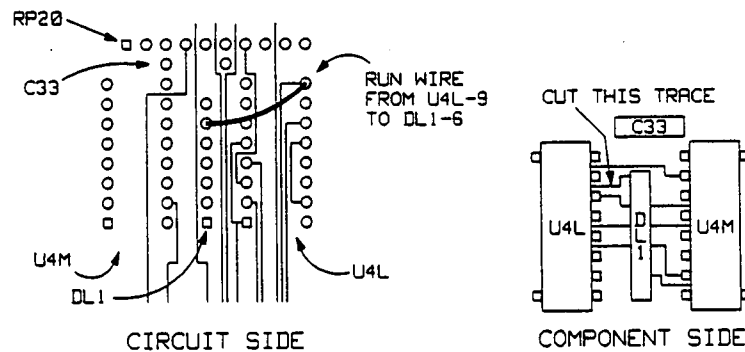

Figure 3. PC Board Corrections
- 13) Cut the trace between U4I and DL1 (see figure 3) on State Master board 01630-66509.
- 14) With a small piece of wire, connect U4L pin 9 to DL1 pin 6 (see figure 3).